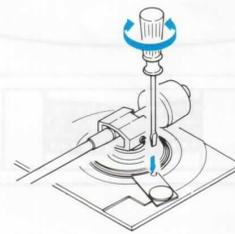

Fig. 10
- d. In the automatic operation, turn the adjusting screw clockwise or counter-clockwise as shown in Fig. 10 so that the stylus tip will correctly set down on the lead-in groove of the record.